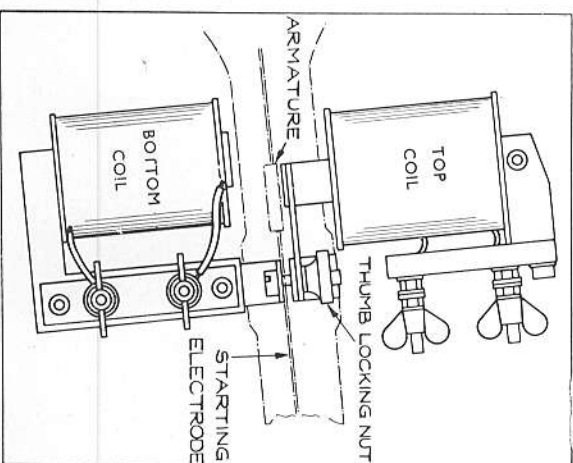

Fig. 9. Showing the arrangement of the starting coils on the starting arm.
**Fitting of starting coils.** With this type of bulb two starting coils are fitted. Their position is illustrated in Fig. 9. It will be seen that there is a thicker section on the starting arm at the point where the two starting coils are clamped.